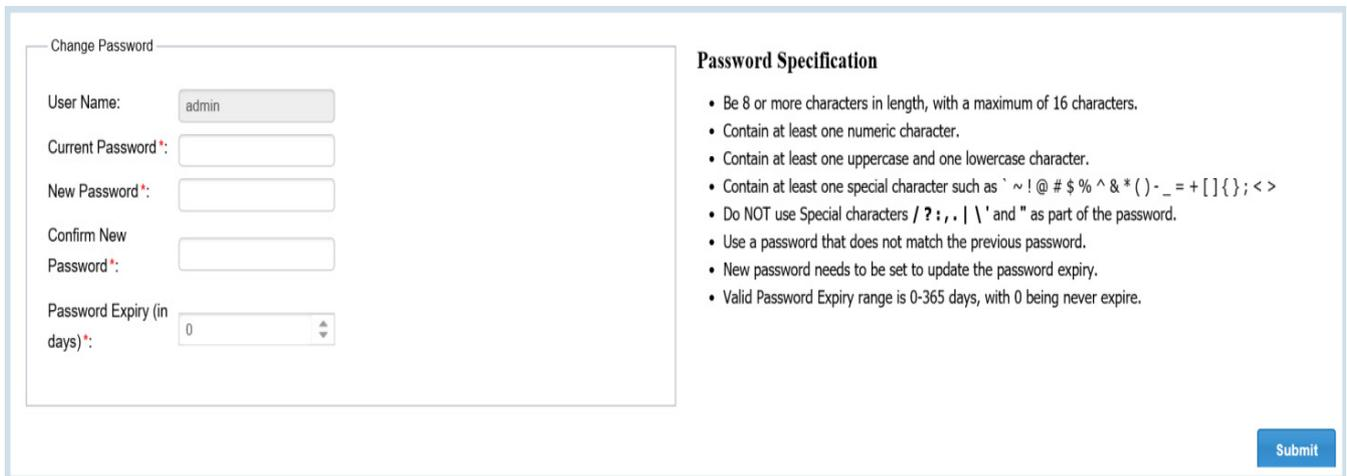

Figure 80 Change Password page
- If the password has expired, there will be a different text banner stating “Password is expired. Please change your password”. You will be directed to the change password page, as shown in Figure 80. You can follow the same steps to change the password expiration date.